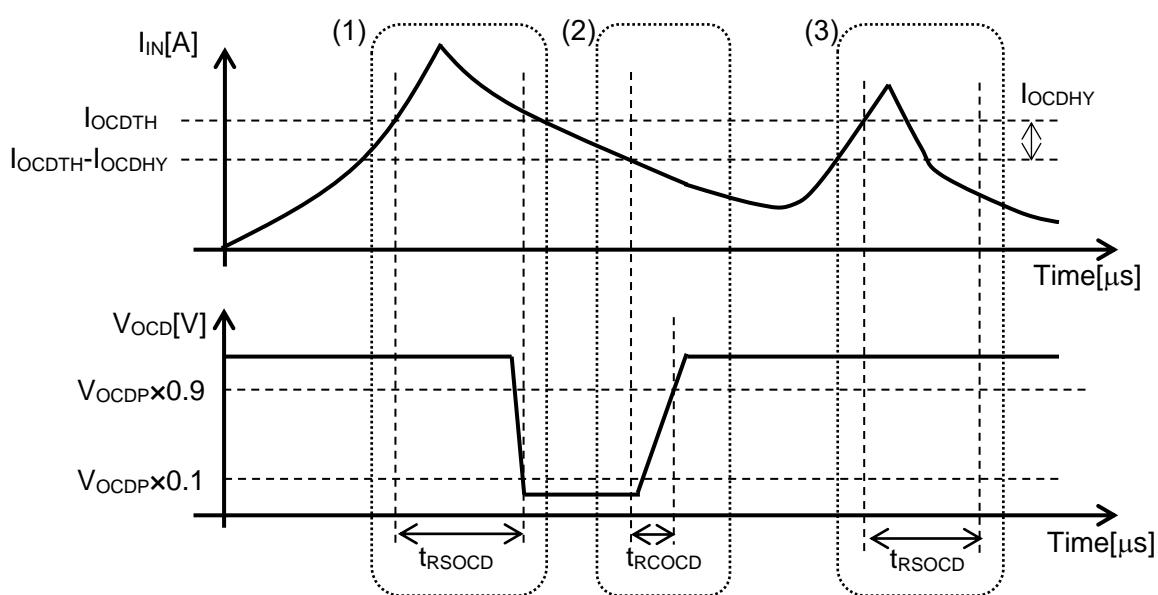

Figure 6. Overcurrent Detection Function of CZ-3AG1
10.4. Overcurrent Detection Function is operated as below. (See figure 6.)